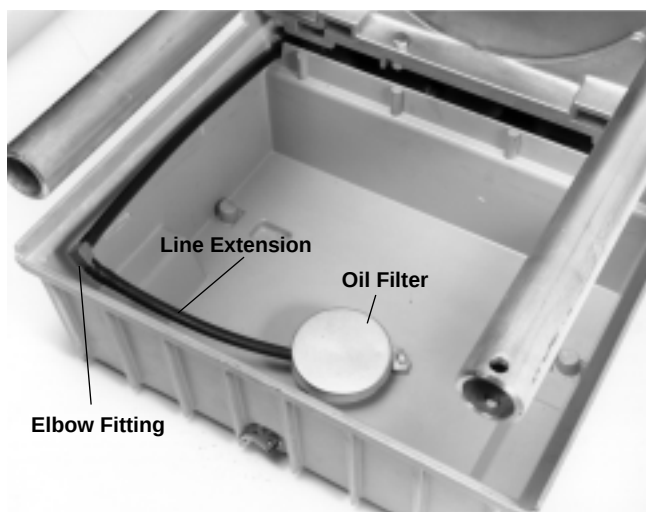

Figure 5A – No. 1460 Oil Pan Cover
2. Attach elbow fitting and oil line extension to existing oil line (*Figure 5A*).